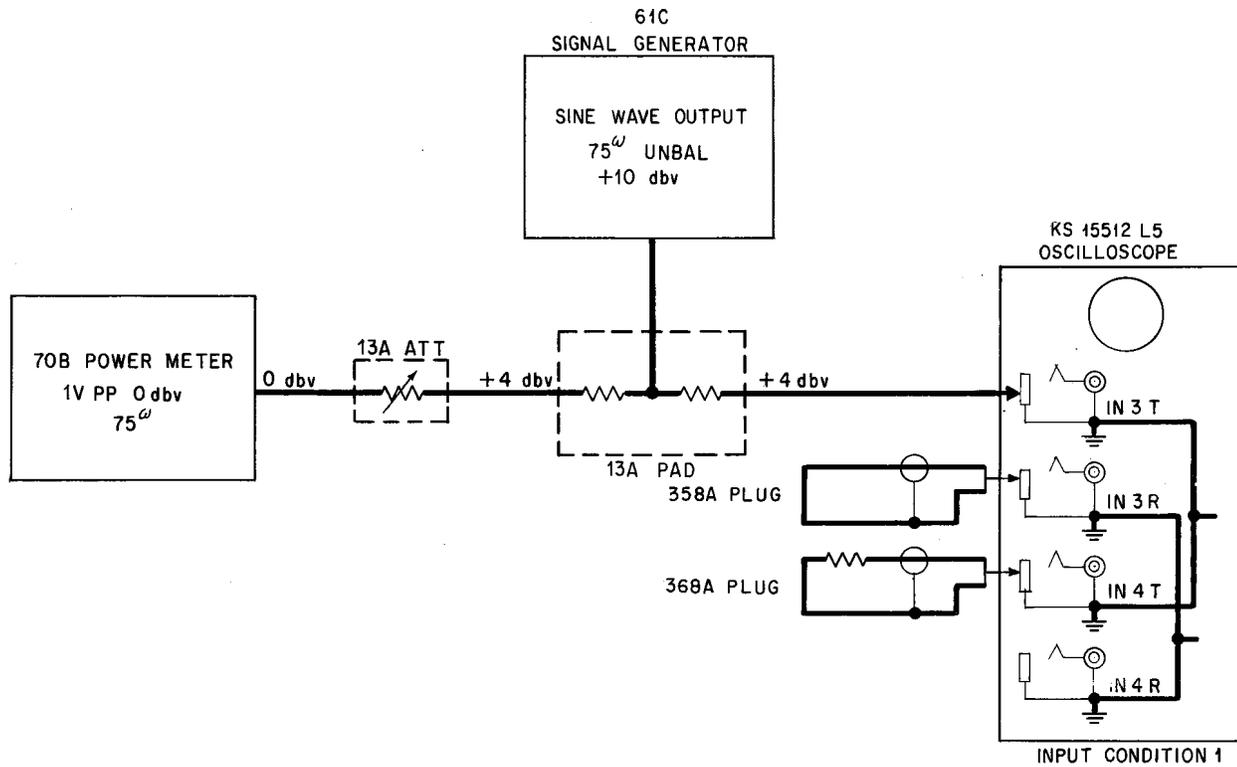

Fig. 7 – Vertical Amplifier Frequency Response
(f) Use equipment arrangement illustrated in Fig. 7 and maintain input condition 1 to the oscilloscope. Adjust the signal source for a 1-volt peak-to-peak, 100 kc, 0 dbv indication on the power meter. Readjust the V GAIN control for a 1-inch deflection on the CRT.
(1) Set up the equipment as illustrated in Fig. 7. On the oscilloscope use input condition 1 (Paragraph 1.07). Set the INPUT switch to SIDE position, the BANDWIDTH switch to WIDE position, and the SWEEP FREQ switch to HI position, and the H GAIN control fully counterclockwise. Adjust the signal source for a 1-volt peak-to-peak, 100 kc sine wave with a level of 0 dbv as read on the power meter. Set the V GAIN for a readable vertical deflection of about 2 inches. Check the trace for high-frequency crosstalk pickup, which would appear as a horizontal spreading at either end of the vertical trace in the form of a loop which should not exceed one division of 20 lines to the inch graph paper. Also by switching the SYNC SELECTOR control from + to -, high-frequency crosstalk pickup is indicated by a rotation of the axis of the vertical trace. This rotation of axis